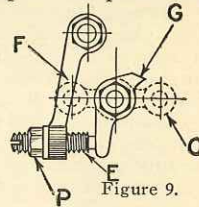

Figure 9.
**First.** Adjust the screw "E" (Figure 9) until it just touches the push finger "G." Tighten locknut "P."
**IMPORTANT.** The adjusting screw "E" as shown in Figure 9 should always be set so you can slip a piece of paper between the screw and the push finger "G" when the spring arm "C" is in a horizontal position.
See that the igniter points are together. If the points are apart, adjust them by loosening locknut "P" and turning adjusting screw "E" (Figure 9, page 6) until the igniter points are together. This is very important as the magneto will not give a spark if these points are separated. They must be tight together. Oil the magneto and take hold of spring arm and rock it back and forth until it works freely.